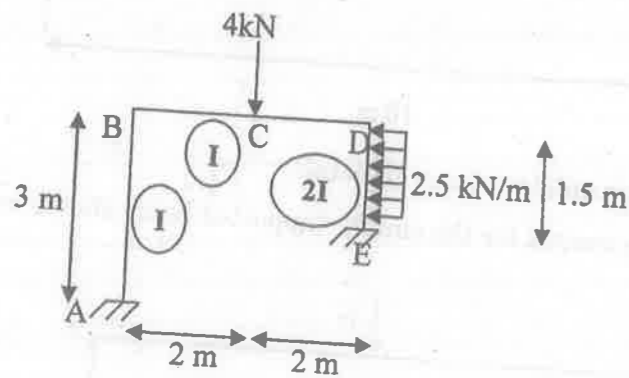

Fig. 5
13. Draw BMD and sketch the deflected shape of the frame shown in fig. 5. All members are of the same material. Use slope deflection method.